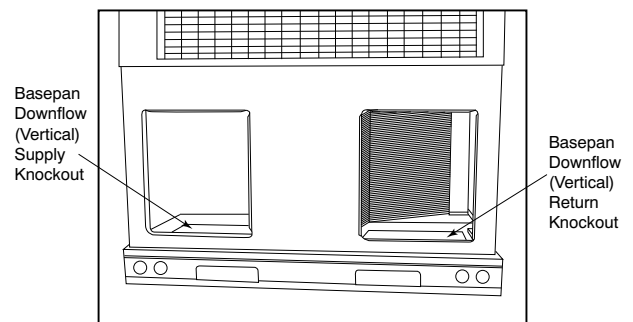

Fig. 6 – Supply and Return Duct Opening
2. Remove horizontal (metal) ductcovers to access vertical (downflow) discharge duct knockouts in unit basepan. (See Fig. 6)
**NOTE:** These panels are held in place with tabs similar to an electrical knockout. Reinstall horizontal duct covers (Fig. 6) shipped on unit from factory. Insure openings are air and watertight.